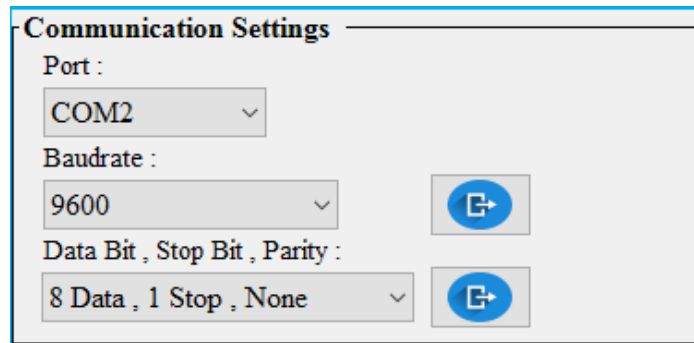

Figure 37
- There are different Baud rates; Data Bit, Parity and Stop Bit combinations are available for settings as shown in Figure 37